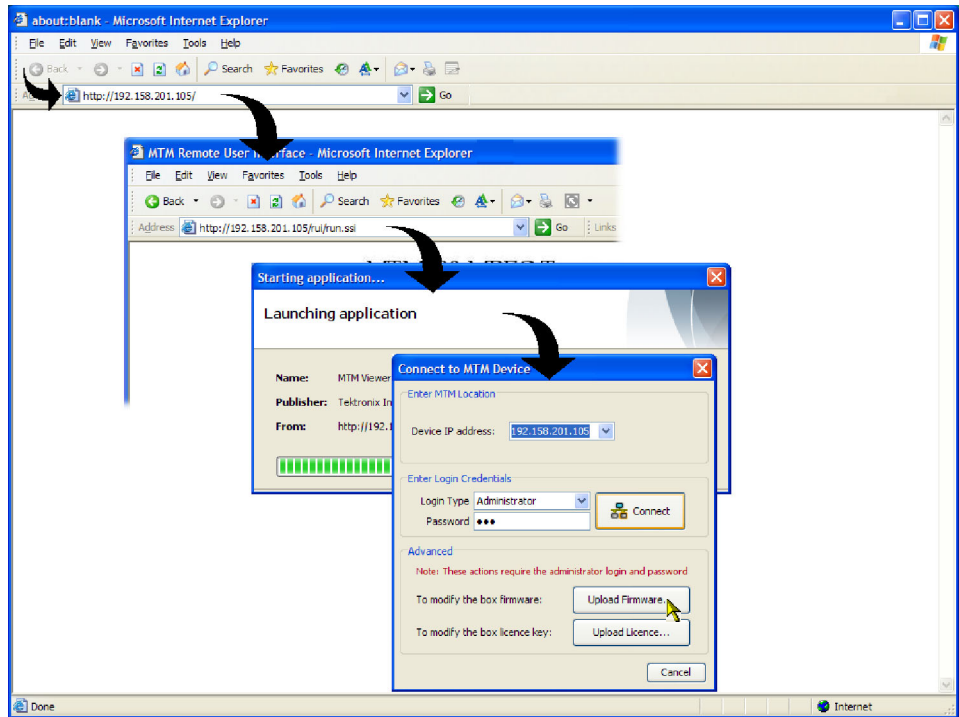

Figure 2: Connecting to the instrument
2. In the Web browser address bar, enter the IP address or network name of the MTM400 or MTM400A monitor (see Figure 2), for example: